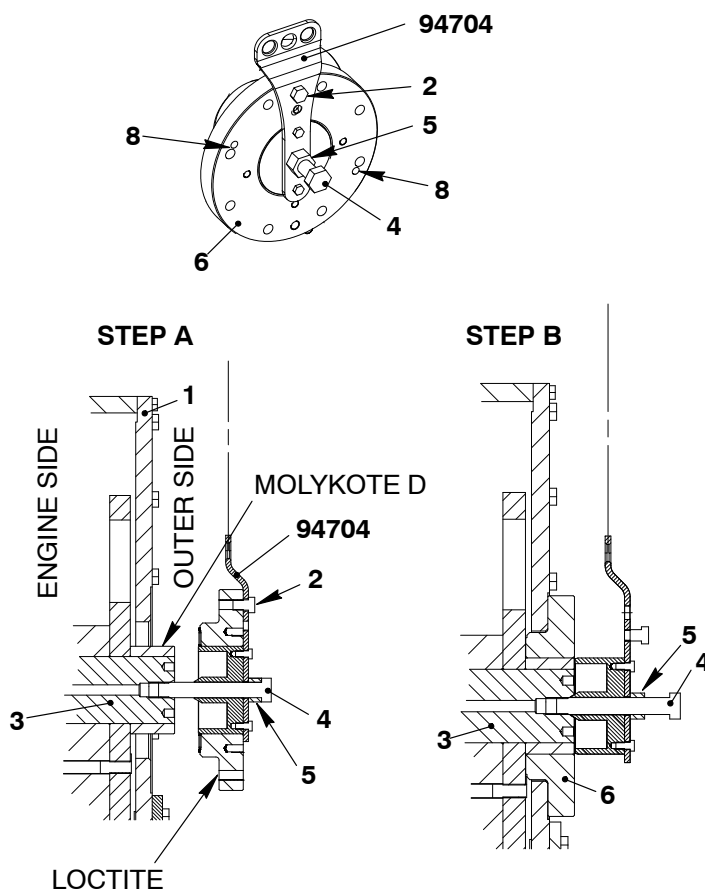
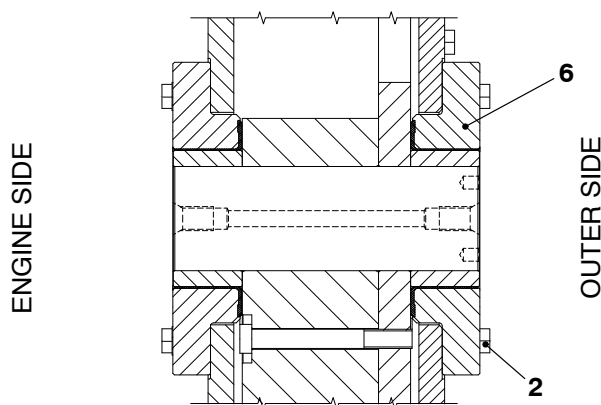

Fig. 9
Fig. 10
- 1) Make sure that the bearing (6, Fig. 9) is clean, dry and in good condition. Apply Molykote D to the surface of the bearing.
**Note: Do not install the two taper pins (8).**
- 2) Attach the lifting tool (94704) to the bearing (6).
- 4) Tighten the screw (2).
- 5) Operate the crane to move the bearing (6) in front of the pin (3).
- 6) Apply Loctite No. 640 to the surface of the bearing (6).
- 7) Apply Molykote D to the surface of the pin (3).
- 8) Install the screw (4) together with the nut (5) through the bearing (6) into the pin (3).
- 9) Remove screw (2).
- 10) Align the taper pin bores with the cover (1).
- 11) Turn the bearing (6) until the pin bores in the bearing are at 90° to the bores in the column (1).
- 12) Tighten the nut (5) and move the bearing (6) in the correct position on the column (1) (STEP B).
- Note: Operate the crane if the pin (3) is too low.**
- 14) Install four (of the eight) bolts M20x70 (2, Fig. 10) in position. Do not tighten the four bolts at this step.